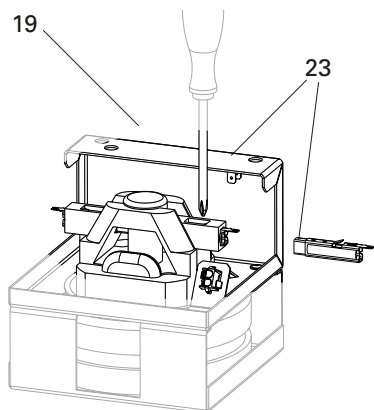

Fig. 10
- The motor package has to be removed in order to replace the carbon brushes! Using a blunt object, press the metal tongue downwards (fig. 10) and pull the carbon brush holder out. Now push in the carbon brush (see 3.4 Spare parts) until it engages and mount everything in the reverse order.